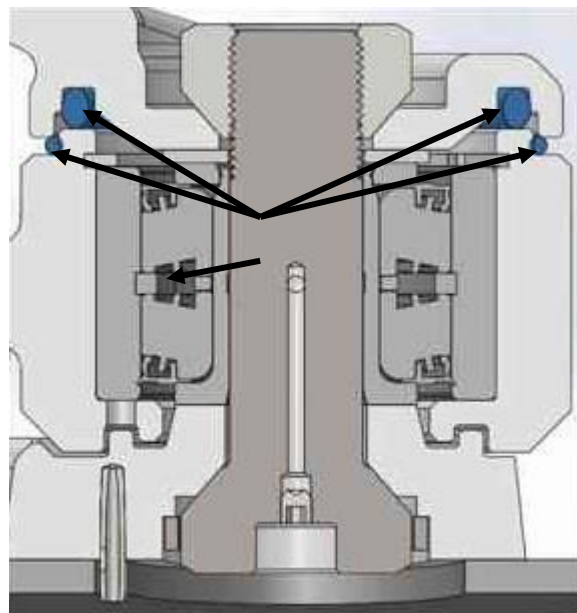

Figure 113
9. Install the bell cranks on the drive paddle. Insert the bolts from under the cutter bar and install the stabilizer bar with O-rings between the top of the bearing and stabilizer. Figure 113 Use grease to hold the O-ring in place. Put the nuts on the bolts finger tight to hold in place. Figure 114